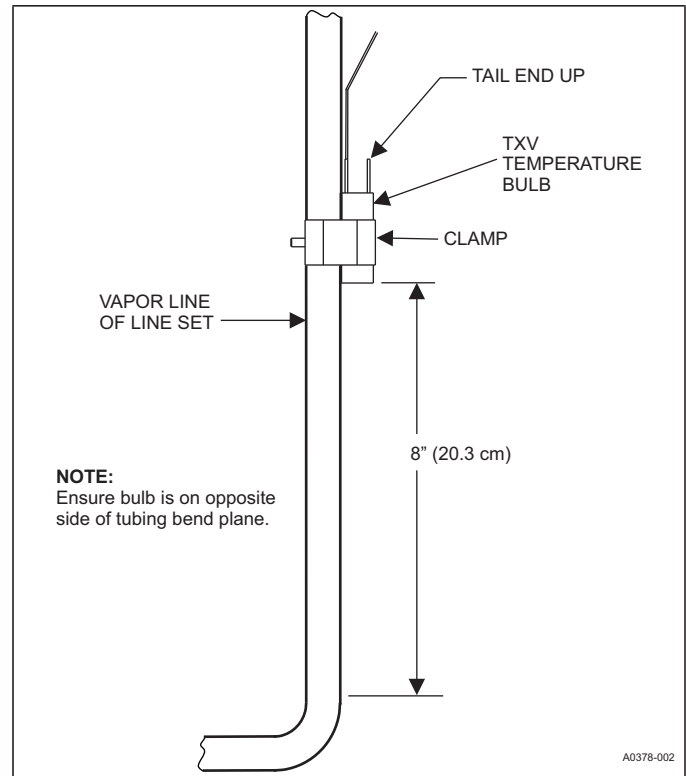

FIGURE 15: Vertical Temperature Bulb Orientation
- If bulb installation is made on a vertical run, ensure that the bulb is a minimum of 8 inches (20.3 cm) away from elbow coming out of the coil. Position the bulb with the tail of the bulb at the top, so that the bulb acts as a reservoir. See Figure 15.